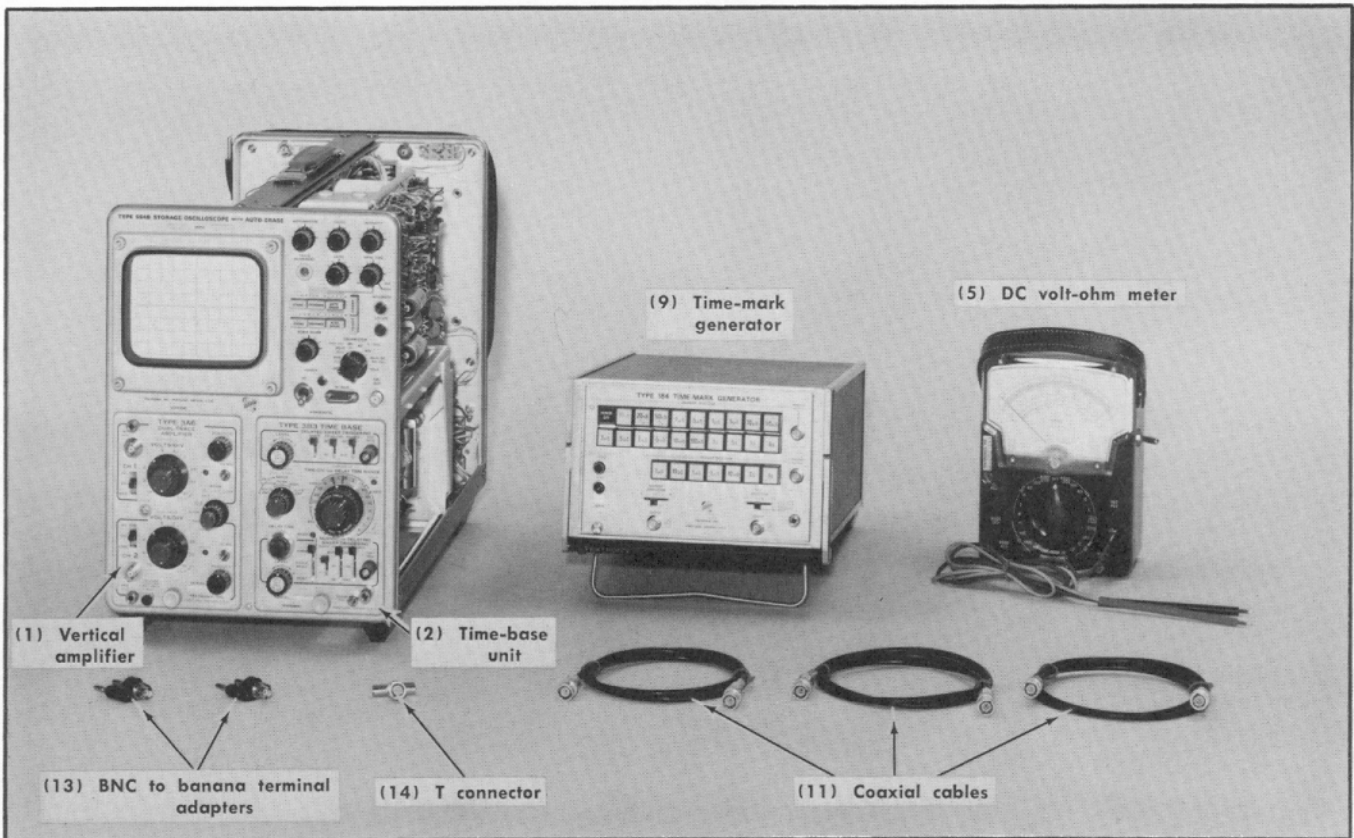

Fig. 5-21. Test equipment required for steps 23 through 33.
①
a. Test equipment required for steps 23 through 32 is shown in Fig. 5-21. The equipment illustrated is keyed to that listed under Test Equipment Required.